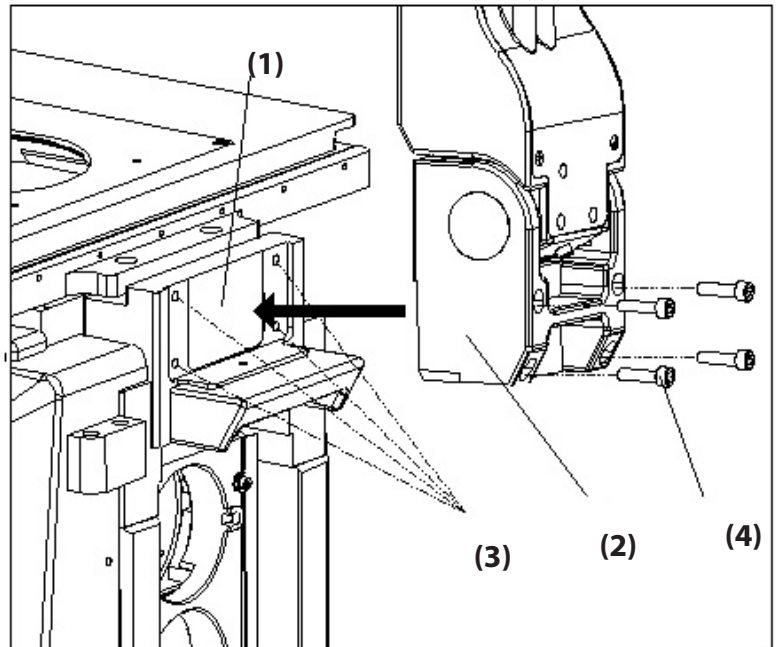

Figure 8
Refer to Figure 8 when completing this step. **Note that this assembly step requires two people.** To assemble the light, first, align the u-shaped groove on the bottom of the light assembly (2) with the pin on the side of the microscope base (1). Once the pin is aligned, use the included M5 Allen wrench to tighten the screws (4) into the appropriate holes (3) on the base.